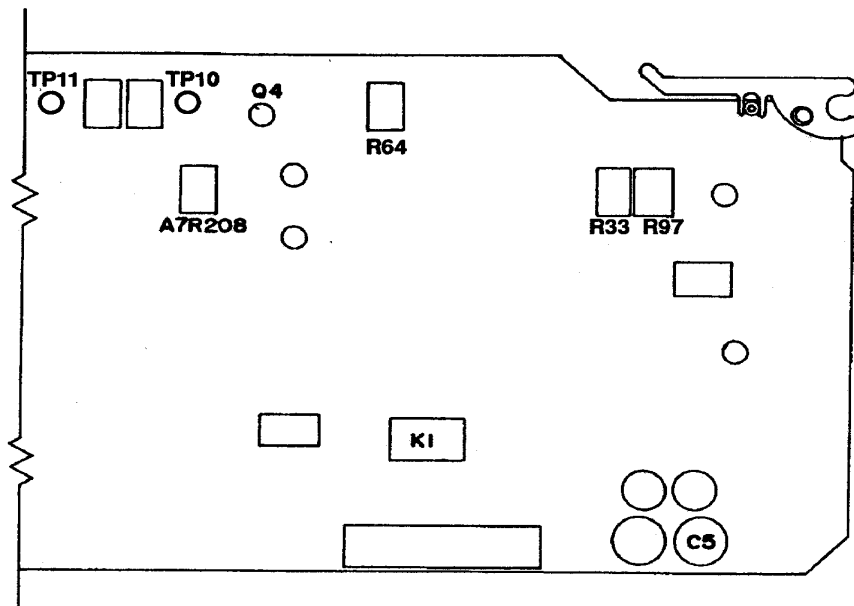

Figure 4. A7 phase lock loop circuit card adjustment location.
- (6) Set TI for 5 V p-p output at 9.8 kHz.
- (7) Connect **SYNC OUT** output to oscilloscope trigger input.
- (8) Connect audio analyzer monitor output (rear panel) to oscilloscope vertical input and set oscilloscope controls for display of peak distortion.
- (9) Adjust R33 (fig. 4) until waveform peaks are clearly visible in the residue.
- (10) Adjust R97 (fig. 4) until waveform peaks are symmetrical, above and below the average value of the residue signal.
- (11) Adjust R33 (fig. 4) until peaks disappear back into the residue.
- (12) Observe the overall ripple in the residue in the area of the waveform zero crossings as displayed on the oscilloscope. Adjust **CONTROL** knob cw for clearly visible peaks displayed on oscilloscope and repeat (11) above.
- (13) Repeat technique of (11) and (12) above until minimum overall ripple is displayed on oscilloscope.
- (14) Connect MULTIMETER + lead to TP 10 (fig. 4) and - lead to TP 11 (fig. 4) and adjust R64 (fig. 4) for display of <1 mV dc.